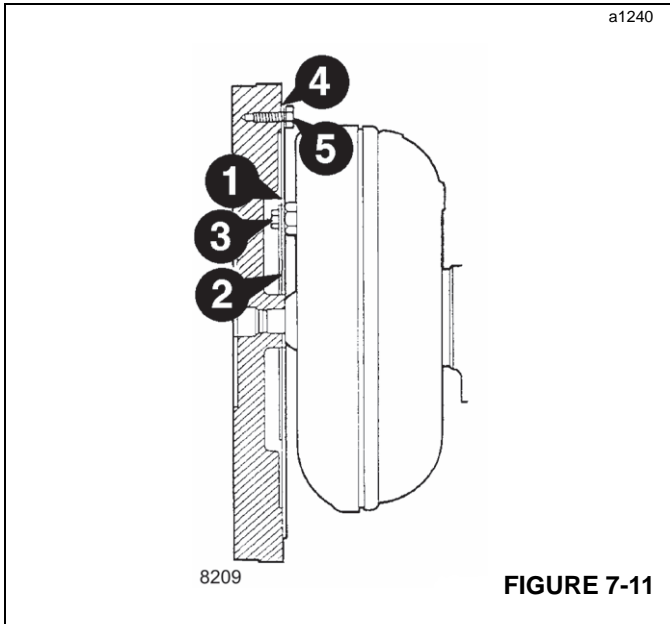

FIGURE 7-11
1. Place the drive plate and annulus (1 Figure 7-11) onto the torque converter.
- e. Remove the access plate from the bottom of the engine flywheel housing and, through the access hole, fit and hand tighten one bolt (3, Figure 7-11) in the six o'clock position.
1. Assemble the drive plate and drive plate annulus (1, Figure 7-11) to the torque converter using bolts (3), finger tighten at this time.
2. Bolt drive plate to flywheel and check that run-out of pump drive shaft (B) does not exceed maximum permissible 0.38 mm (0.015 in). If incorrect, tap torque converter by hand to reposition.
4. Apply Loctite 243 to threads of bolts (3) and tighten to 40 Nm (30 lb-ft).
5. Fit torque converter/drive plate sub-assembly to flywheel; align marks, then fit washers (4) and bolts (5). Apply Loctite 243 to bolts (5) and tighten to 19 Nm (14 lb-ft).